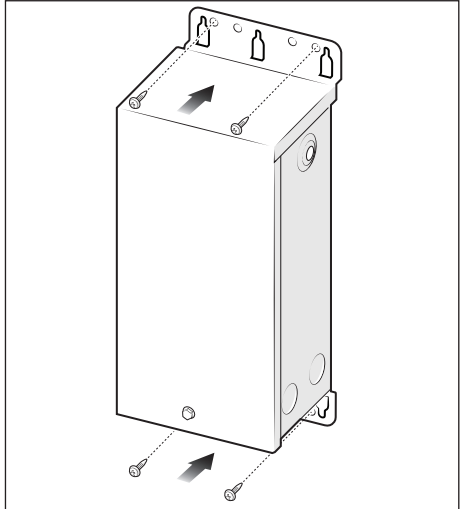

Figure 8. Mounting Light Controller
5. Secure screws (or other hardware appropriate for the mounting surface) through either the keyhole slots or the mounting holes of the Light Controller enclosure, see *Figure 8*.